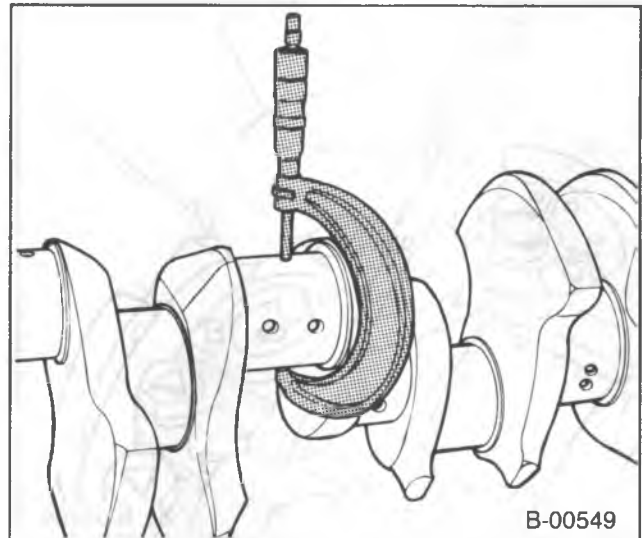

Figure 28—Measuring the Crankshaft Journals
- Main bearing and connecting rod journal diameters (figure 28). Compare with "Specifications." Replace the crankshaft if necessary.
- Main bearing and connecting rod journals for taper and out-of-round (figure 28). If the journals are tapered or out-of-round more than 0.005 mm, replace the crankshaft.